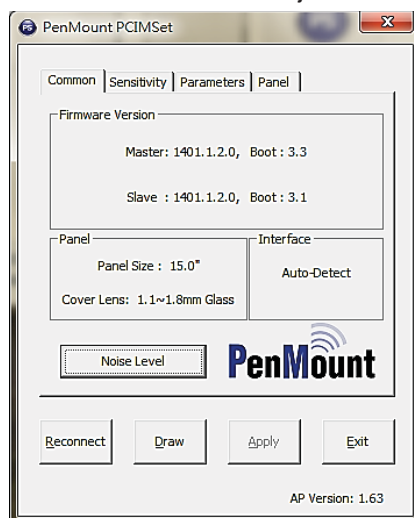

Fig.36
- Common: This tab shows firmware version, panel size, cover glass thickness, and interface; it can also compute standard deviation for the current environment. (Fig.36)